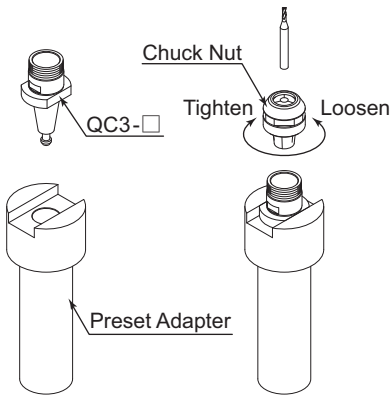

Fig 8
- ① Affix the preset adapter to the tool holder ($\phi 20\text{mm}$) etc.
- ② Align the collet holder to the drive dog notch of the preset adapter, and insert the collet holder. (Fig. 8)